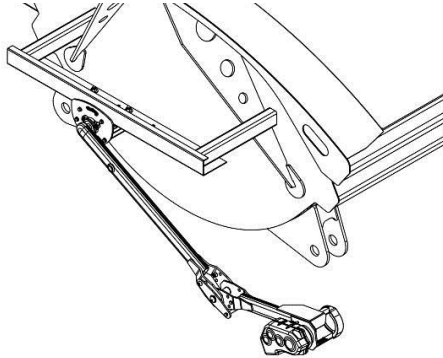

Figure 13
11. Locate the bag containing the stub shaft, stub shaft bolt and the snap ring. Refer to figure 13 below.